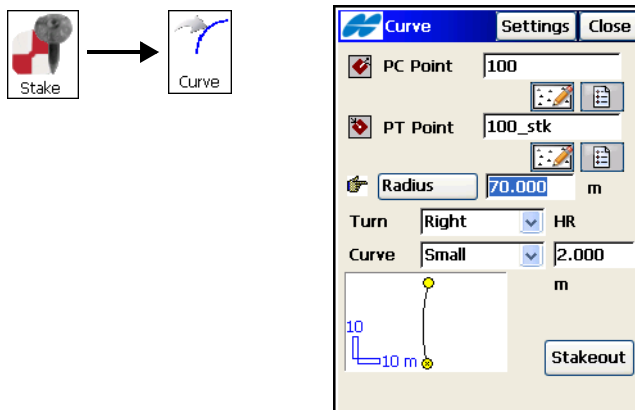

Figure 9-18. Curve
- To stake out points along a horizontal curve, tap **Stake ▶ Curves** (Figure 9-18 on page 9-14).
- On the **Curve** screen (Figure 9-18 on page 9-14), specify the reference curve by choosing the starting point (Point of Curvature), the ending point (Point of Tangency) and the radius parameter of the curve at the end point. The stakeout points have the same height as the starting point. Also, specify whether the curve turns right or left and whether to use a small